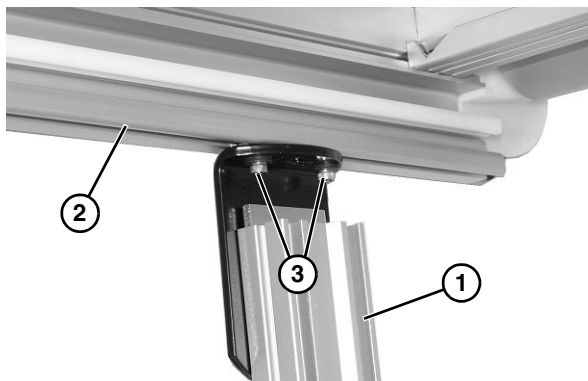

Figure 10
2. Attach stands (Figure 10, item 1) to the bottom of the conveyor frame (Figure 10, item 2). Tighten socket head screws (Figure 10, item 3), on each side, to secure in place.